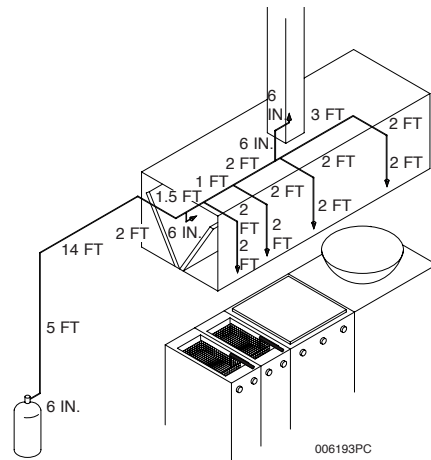

FIGURE 3-36
- Step No. 3** Make an accurate sketch of the cooking lineup and the hood. Sketch in the tank location and all the piping required for the total system. Make certain all pipe lengths and number of elbows are as accurate as possible. Check the General Piping Requirements on Page 3-19 to determine that the minimum and maximum requirements are met. See Figure 3-36.